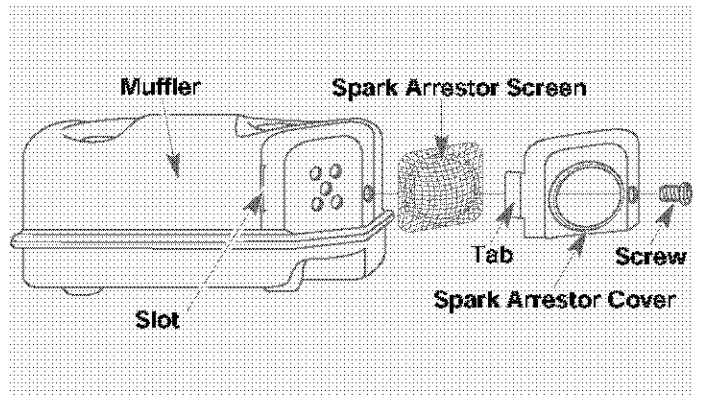

Fig. 58
2. With a flat blade screwdriver or Torx T-20 bit, remove the screw attaching the spark arrestor cover to the muffler (Fig. 58).